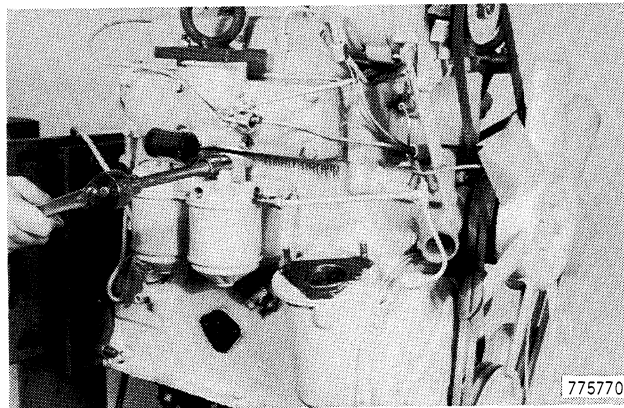

Figure 24
5. Remove the cap screws from the fuel filter, Figure 24.